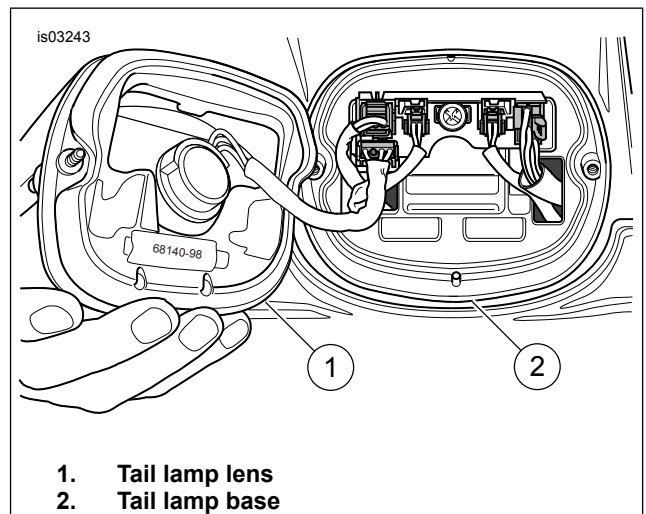

Figure 1. Remove Tail Lamp Lens
3. See Figure 1. Remove two screws and tail lamp lens (1) from base (2).